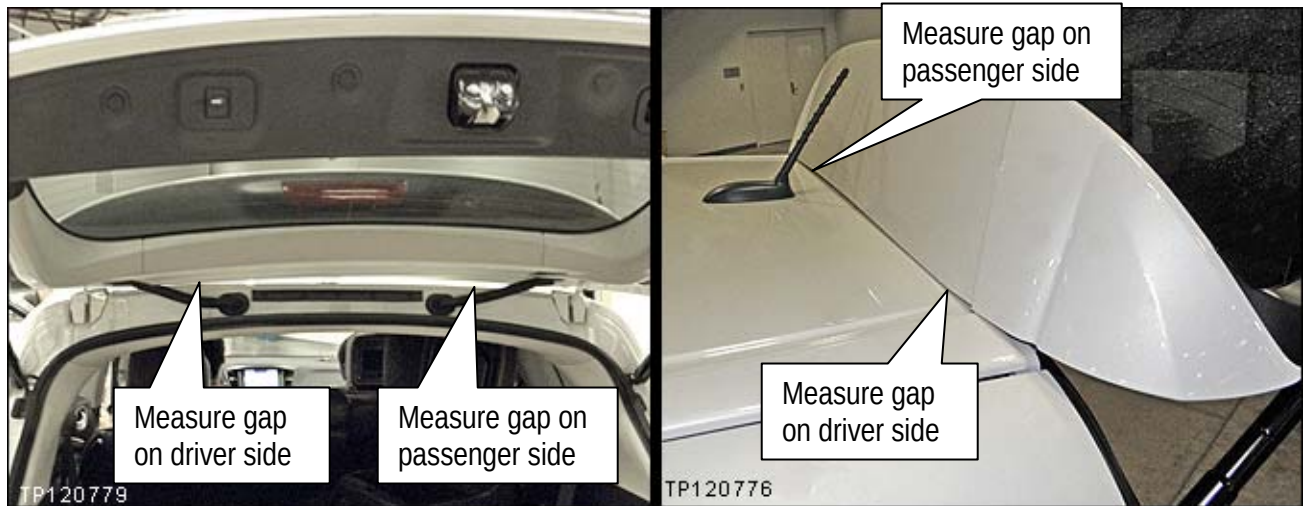

Figure 3
2. Measure the gap between the rear hatch/spoiler and the roof on the driver and passenger side (see Figure 3).